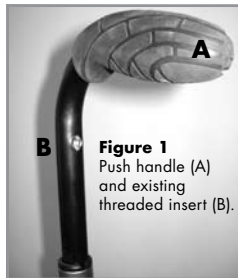

Figure 1
1. Verify that the Corbac will be used without the original wheelchair back upholstery and that the rear canes are equipped with push handles and threaded inserts as shown in Figure 1.